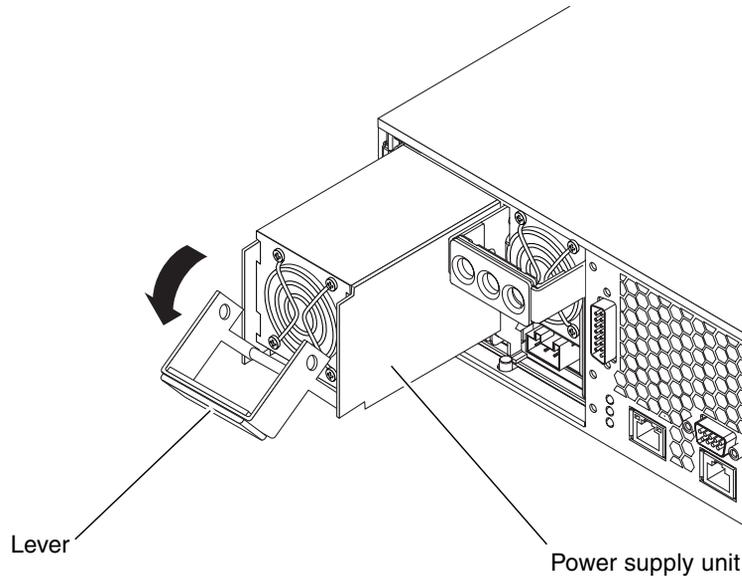

FIGURE 5-9 Disengaging a Power Supply Unit
- Pull the lever on the back of each power supply unit down (FIGURE 5-9).**
- Slide each power supply unit part of the way out of the server chassis by pulling on the lever (FIGURE 5-9).**